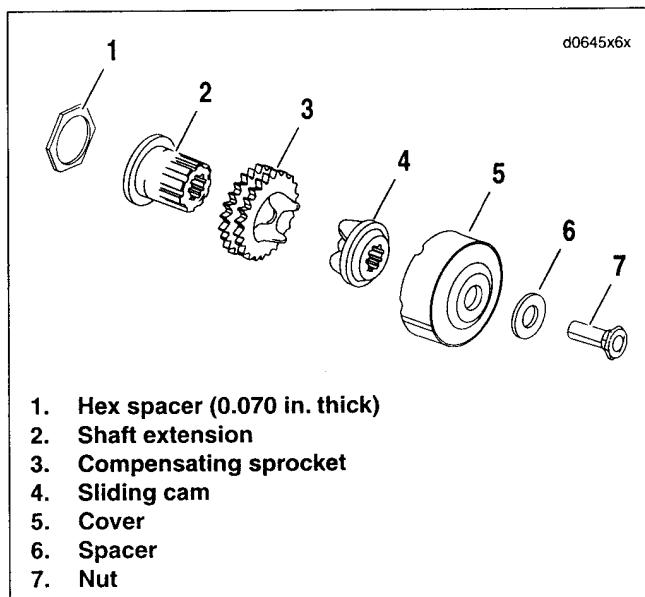

Figure 6-11. Compensation Sprocket
8. See Figure 6-11. Remove nut (7), spacer (6), sprocket cover (5) and sliding cam (4).
3. See Figure 6-11. Slide compensating sprocket (3) and sprocket cover (5) over shaft extension (2).
4. Clean and prime threads of nut (7). Apply two drops of LOCTITE THREADLOCKER 262 (red) to the threads. Install spacer (6) and nut hand tight.